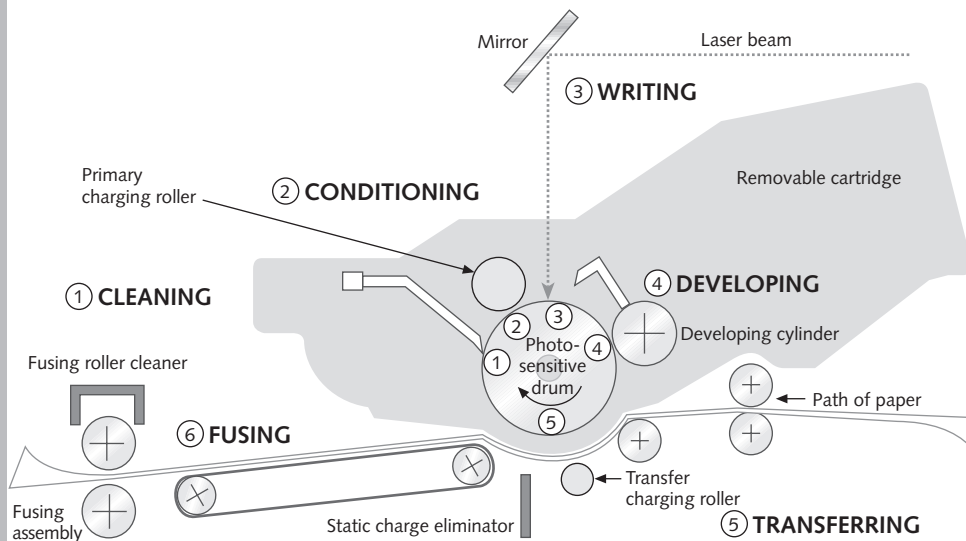
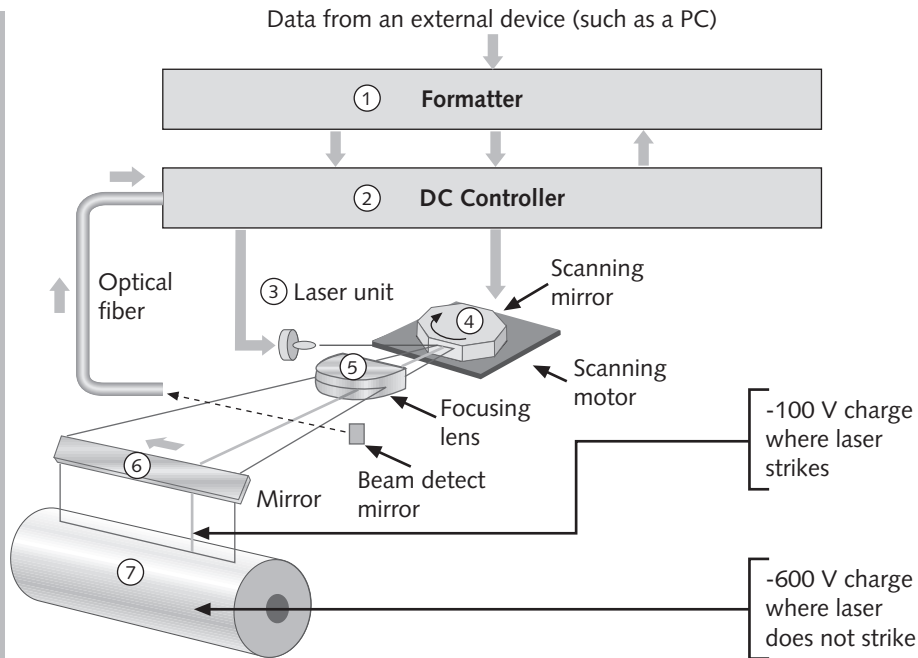

Figure 18-2 The six progressive steps of laser printing
Figure 18-4 The writing step, done by an invisible laser beam, mirrors, and motors, causes a discharge on the drum where the image will be recaptured
How a Laser Printer Works Laser printers work by placing toner on an electrically charged rotating drum and then depositing the toner on paper as the paper moves through the system at the same speed the drum is turning. Figure 18-2 shows the six steps of laser printing. The first four use the printer components that undergo the most wear. They are
contained within the removable cartridge to increase the life of the printer. The last two steps are performed outside the cartridge. Follow the steps of laser printing below while you refer to Figure 18-2:
Note that Figure 18-2 shows only a cross-section of the drum, mechanisms, and paper. As you visualize the process, remember that the drum is as wide as a sheet of paper. The mirror, blades, and rollers in the drawing are also as wide as paper. First note the location of the removable cartridge in the drawing, the photosensitive drum inside the cartridge turning in a clockwise direction, and the path of the paper, which moves from right to left.
Step 2: Conditioning. The conditioning step puts a uniform electrical charge of -600 V on the drum. The charge is put there by a primary charging roller or primary corona, which is charged by a high-voltage power supply assembly. The primary charging roller in Figure 18-2 is inside the toner cartridge, and regulates the charge on the drum, ensuring that it is a uniform -600 V .
Step 3: Writing. In the writing step, the uniform charge that was applied in Step 2 is discharged only where you want the printer to print. This is done by controlling mirrors to reflect laser beams onto the drum in a pattern that recreates the image desired. This is the first step in which data from the computer must be transmitted to the printer. Figure 18-4 shows the process: Data from the PC is received by the formatter (1) and passed on to the DC controller (2) that controls the laser unit (3). The laser beam is initiated and directed toward the octagonal mirror called the **scanning mirror**. The scanning mirror (4) is turned by the scanning motor in a clockwise direction. There are eight mirrors on the eight sides of the scanning mirror. As the mirror turns, the laser beam is directed in a sweeping motion that can cover the entire length of the drum. The laser beam is reflected off the scanning mirror, focused by the focusing lens (5), and sent on to the mirror (6), which is also shown in Figure 18-2. The mirror deflects the laser beam to a slit in the removable cartridge and on to the drum (7).
The speed of the motor turning the drum and the speed of the scanning motor turning the scanning mirror are synchronized so that the laser beam completes one pass, or scanline, across the drum and returns to the beginning of the drum (right side of the drum in Figure 18-4) to begin a new pass until it completes the correct number of passes for each inch of the drum circumference. For example, for a 300 dots per inch (dpi) printer, the beam makes 300 passes for every one inch of the drum circumference. The laser beam is turned on and off continually as it makes a single pass down the length of the drum, so that dots are written along the drum on every pass. For a 300 dpi printer, 300 dots are written along the drum for every inch of linear pass. The 300 dots per inch down this single pass, along with 300 passes per inch of drum circumference, together accomplish the resolution of 300 X 300 dots per square inch of many desktop laser printers.
Step 5: Transferring. In the transferring step, the transfer charging roller or transfer corona (shown in Figure 18-2) produces a positive charge on the paper that pulls the toner from the drum onto the paper when it is passed between the transfer charging roller and the drum. The static charge eliminator (refer again to Figure 18-2) weakens the positive charge on the paper and the negative charge on the drum so that the paper does not adhere to the drum—which it would otherwise do because of the difference in charge between the two. The stiffness of the paper and the small radius of the drum also help the paper move away from the drum and toward the fusing assembly. Very thin paper can wrap around the drum, which is why printer manuals usually instruct you to use only paper designated for laser printers.